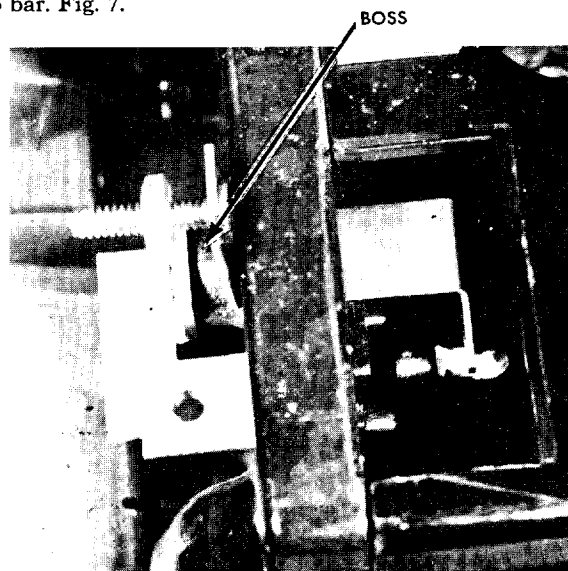

Fig. 7. Assembly of Mounting Bracket and Tripping Hook
**STEP 4** Position the mounting bracket in the depression on the trip unit case and align the bracket mounting hole with the tapped hole in the boss. Insert a 8-32 x 1/4" screw (provided) through the bracket mounting hole into the tapped hole and fasten firmly. Fig. 7.
**STEP 5** Insert the tripping hook through the knockout (removed in Step 2). Be careful not to damage the hook or trip bar. Fig. 7.